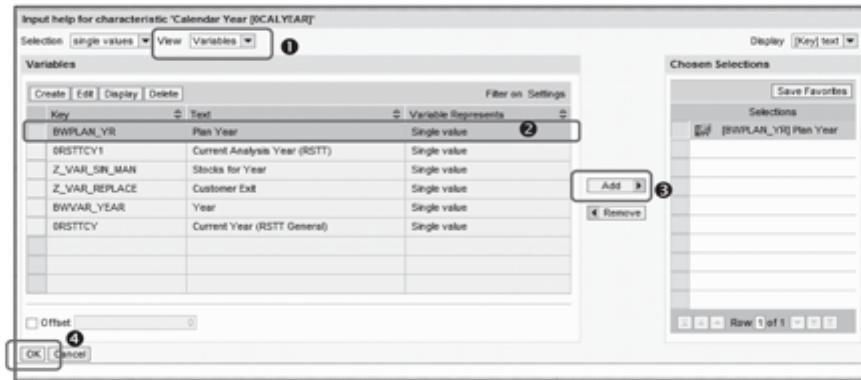
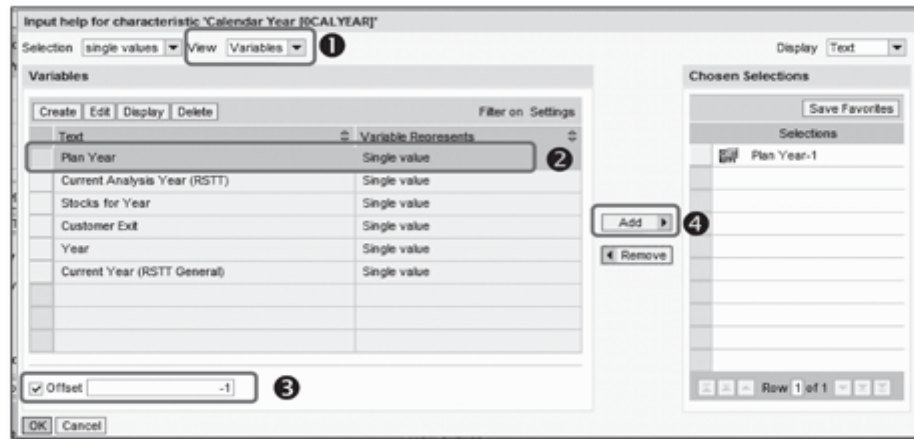

Figure 12.39 Restrict Characteristic with a Variable
Figure 12.51 Use of Variable in Copy Planning Function
- Select the Variables view from the dropdown list (1 of Figure 12.39), and the list of variables built on the characteristic is displayed. Select the variable with which you want to restrict the characteristic (2). Click on ADD to add the selected variable to the selections (3). Finally, click OK to get back to the main filter definition screen (4).
In this case (Figure 12.39), the characteristic OCALYEAR is restricted with a user entry variable BWPLAN_YR that has a single mandatory entry. The use of variables in filters increases the flexibility of the planning application, as the filters – and the data for the planning – are determined at runtime.
4. To define the copy logic, you must specify the From and To values for the Copy function. Click on **CREATE ROW** (❷) to create the first row where you can specify From and To values.
5. Click on **FROM CHANGE** (❸) to specify the From values for copying.
6. As mentioned earlier in this section, you must copy the values from the previous year based on the variable value entered by the user. The variable used here is BWPLAN_YR (refer to Figure 12.39 earlier in this chapter). We use the same variable to derive the From values for the Copy function. As shown in ❶ of Figure 12.51, select the **VARIABLES** view from the dropdown list, and select **Plan Year** (❷).